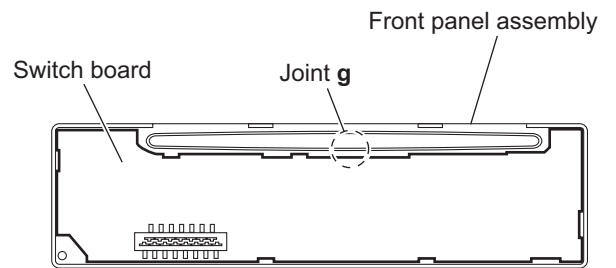

Fig.10
- Release the joint **g** and take out the switch board from the front panel assembly. (See Fig.10.)